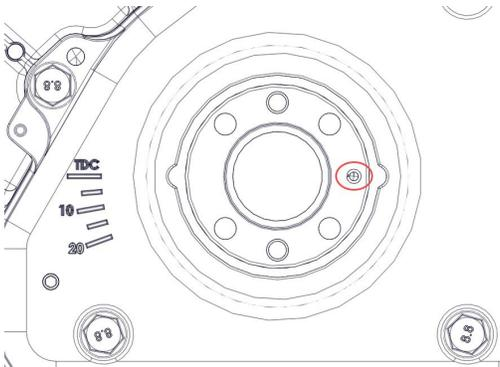

Figure 3.
6. Torque the nine bolts to 18 ft/lbs in the following sequence (Figure 3).